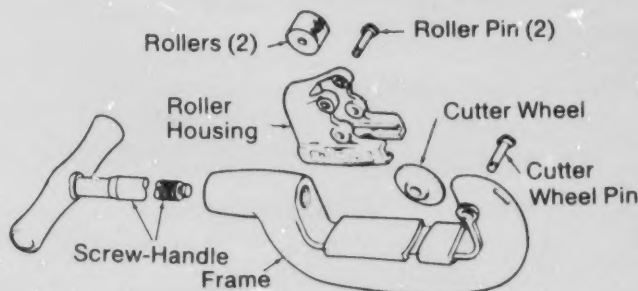

Figure 1-15. Parts of a Typical Pipe Cutter
d) Cutters require periodic wheel replacement, and in some cases the rollers have to be replaced. A descriptive example from a manufacturer's parts book is shown in Figure 1-15.